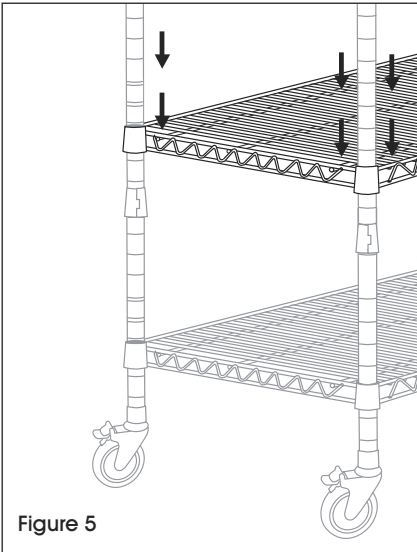

Figure 5
4. Determine the height of the next shelf, snap on supports then add and secure shelf. Repeat Step 4 to add the remaining shelves. (See Figure 5)